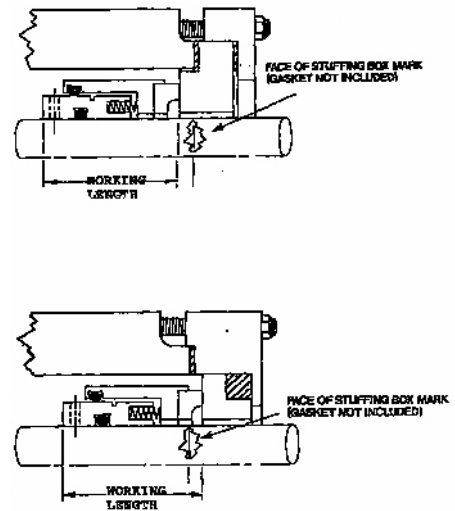

Figure 21
10. Misinterpretation of print, between a recess and a protruding seat, when making reference/interface line (Figure 21).